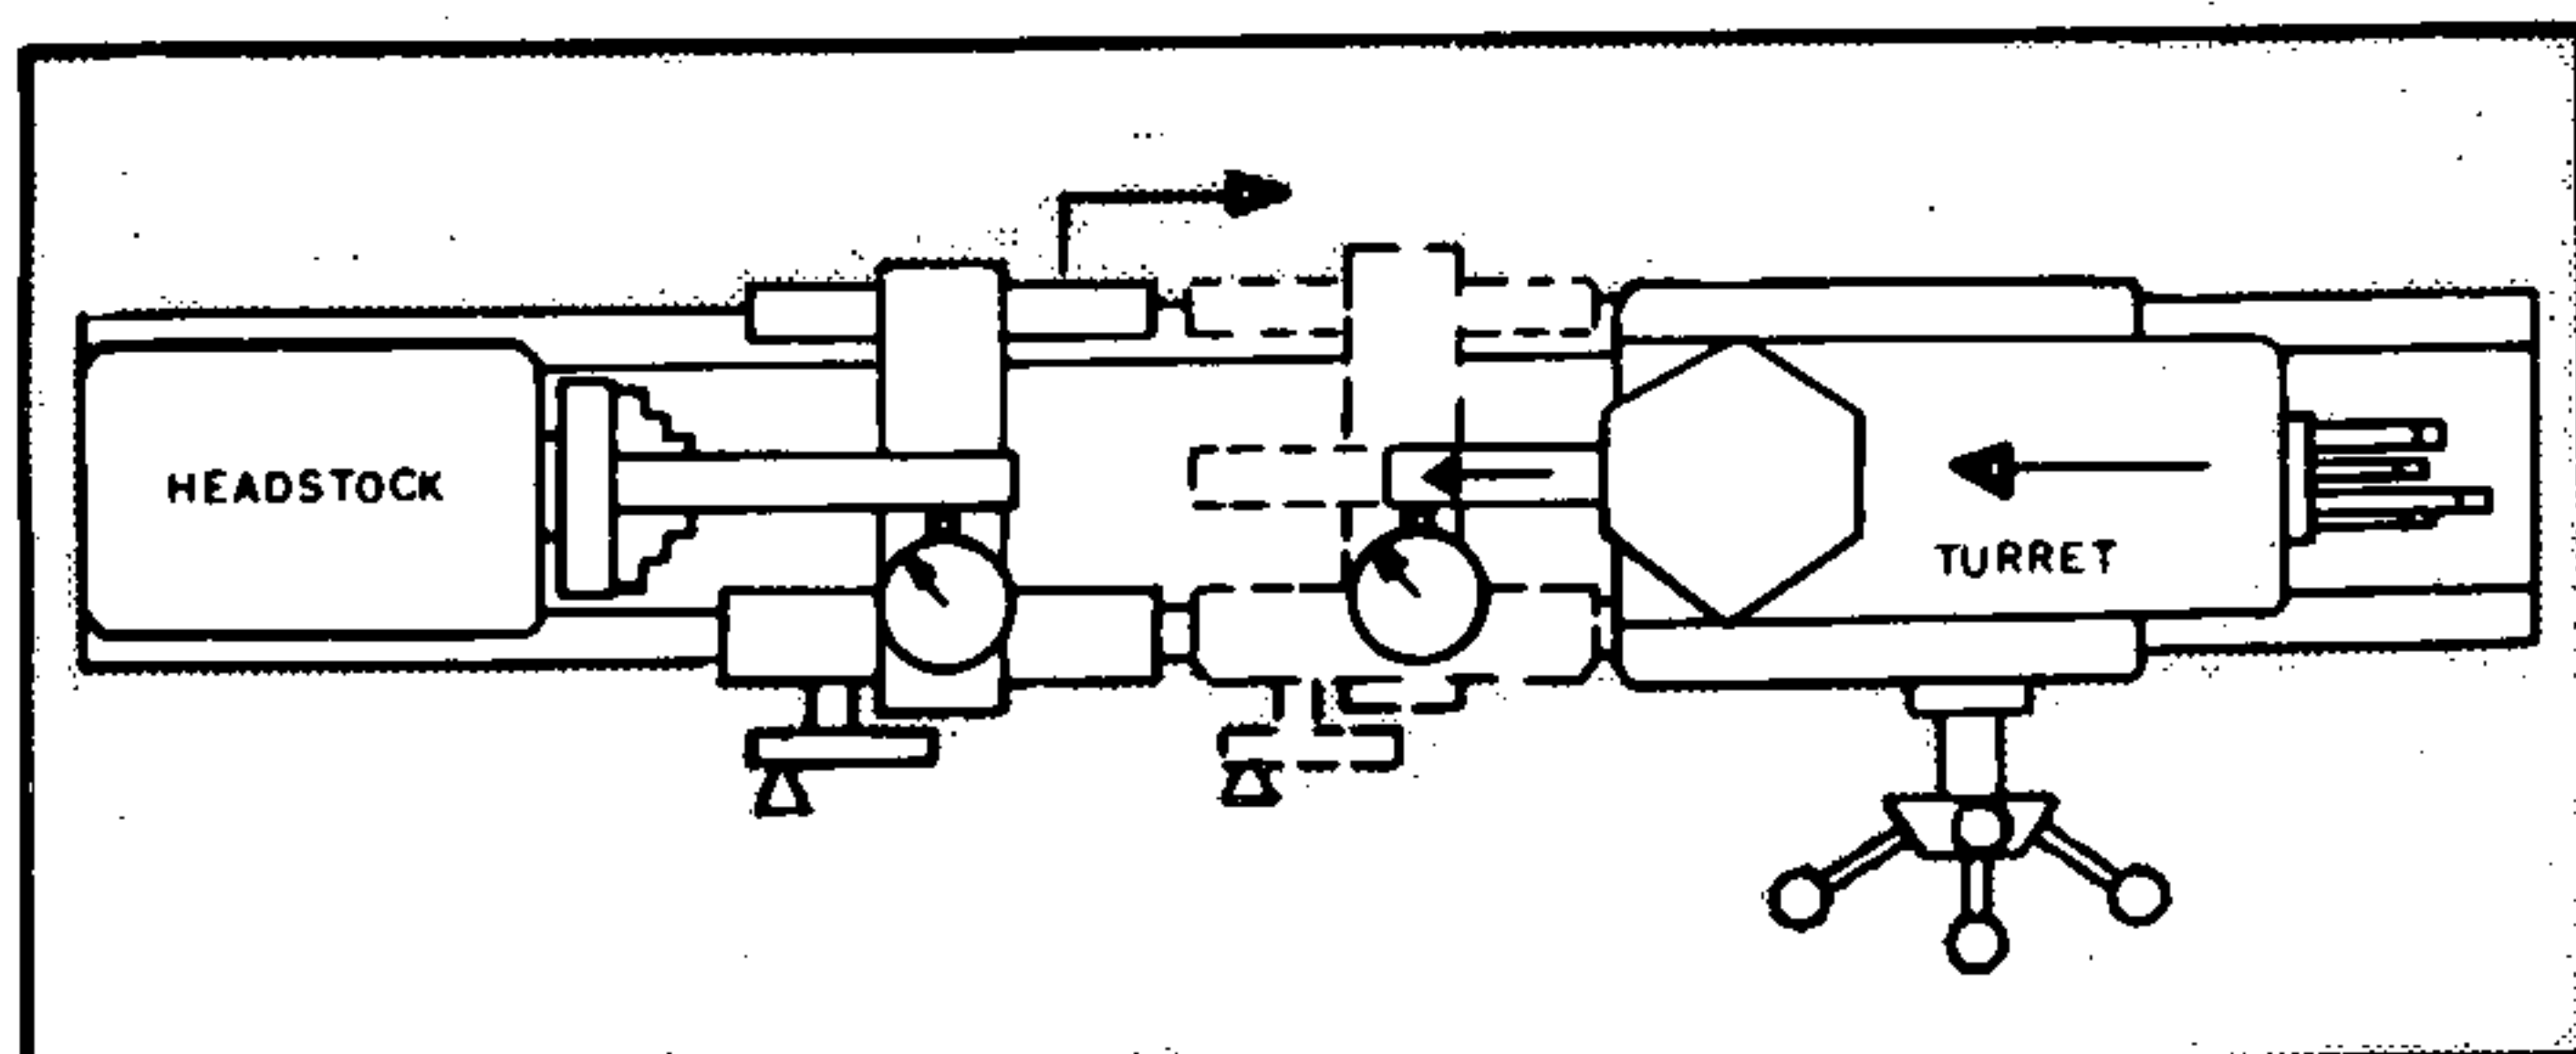

Figure 6
- (a) To check turret alignment refer to figure 6.